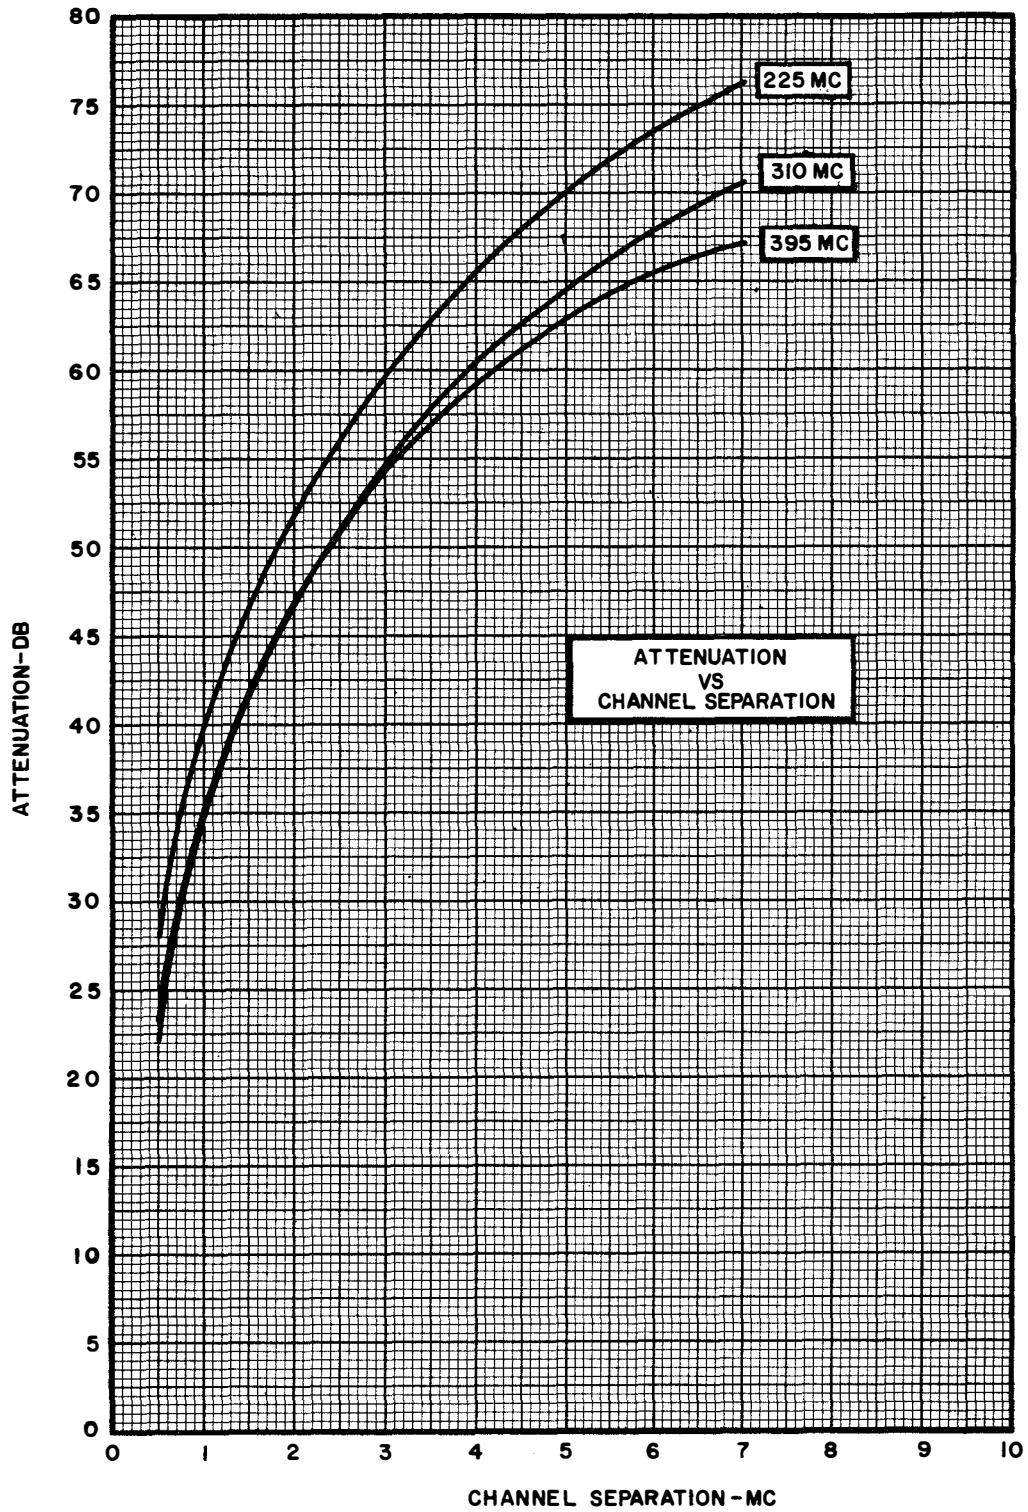

Figure 3-2. Graph: Typical Channel-to-Channel Isolation Curves at Three Frequencies
f. The frequency separation between channels of the coupler determines the amount of isolation (attenuation) achieved between the channels. The greater the frequency separation becomes, the greater the isolation. Therefore, if the communication system employing the coupler requires a certain amount of attenuation between channels, the frequency separation between channels must be sufficient to give the desired attenuation. Typical channel-to-channel isolation curves for three frequencies are shown in figure 3-2.
(a) Rotate the tandem cavity 1 coarse tuning control until the corresponding MEGACYCLES dial indicates the transmitter operating frequency. Maintain adequate frequency separation between channels for proper system operation. See figure 3-2 for typical channel-to-channel isolation curves.
(a) Tune the transmitter to the receiver frequency. Maintain adequate frequency separation between channels for proper system operation. See figure 3-2 for typical channel-to-channel isolation curves.
system operation. See figure 3-2 for typical channel-to-channel isolation curves.
Step 3. - Rotate the corresponding tandem cavity coarse tuning control until the associated MEGACYCLES dial indicates the transmitter frequency. Maintain adequate frequency separation between channels for proper system operation. See figure 3-2 for typical channel-to-channel isolation curves.
Step 3. - Tune the transmitter to the receiver frequency. Maintain adequate frequency separation between channels for proper system operation. See figure 3-2 for typical channel-to-channel isolation curves.
for proper system operation. See figure 3-2 for typical channel-to-channel isolation curves.